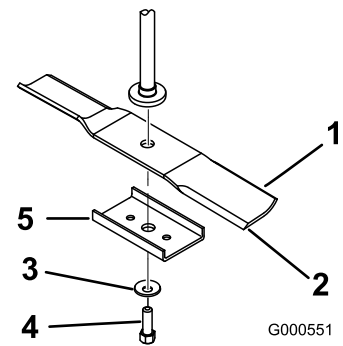
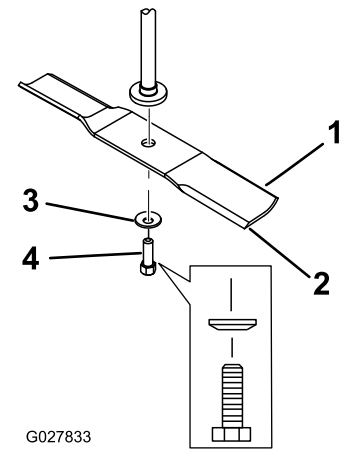

Figure 61
Figure 62
2. Remove the blade stiffener (32-inch decks only), blade bolt, the curved washer, and the blade from the spindle shaft (Figure 61 and Figure 62).
- Install the blade onto the spindle shaft (Figure 62).
- Install the blade stiffener (32-inch decks only), curved washer (cupped side toward the blade), and blade bolt (Figure 62).